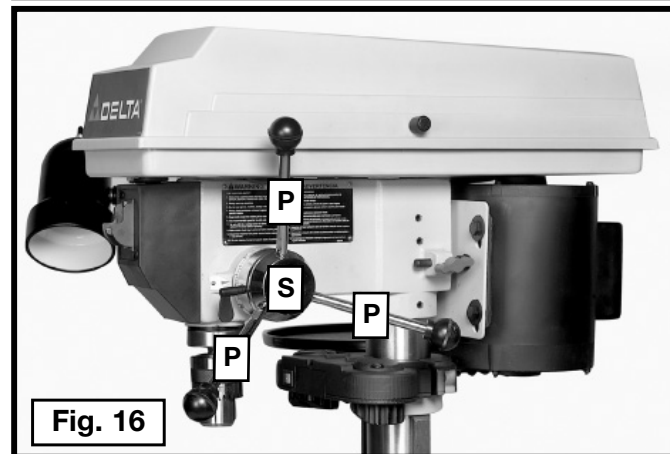

Fig. 16
19. Thread the three pinion shaft handles (P) Fig. 16 in the three tapped holes located in the pinion shaft (S).